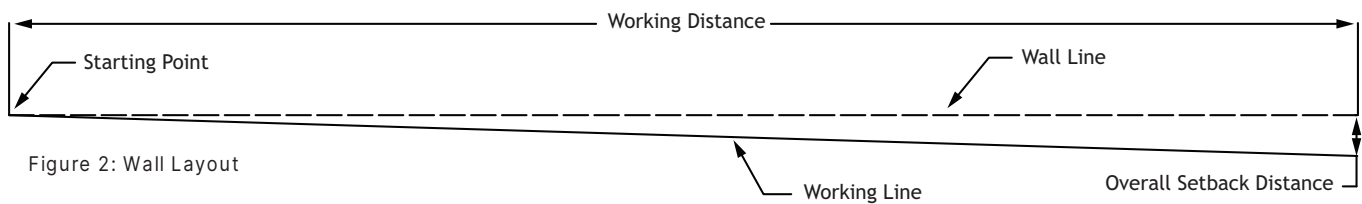

Figure 2: Wall Layout
5. At the end of your working distance measure from the Wall Line and mark the overall setback distance you determined in Step 3. Stretch a string line from the beginning of the working distance to the overall setback mark you just made. Figure 2 shows this line as your Working Line.